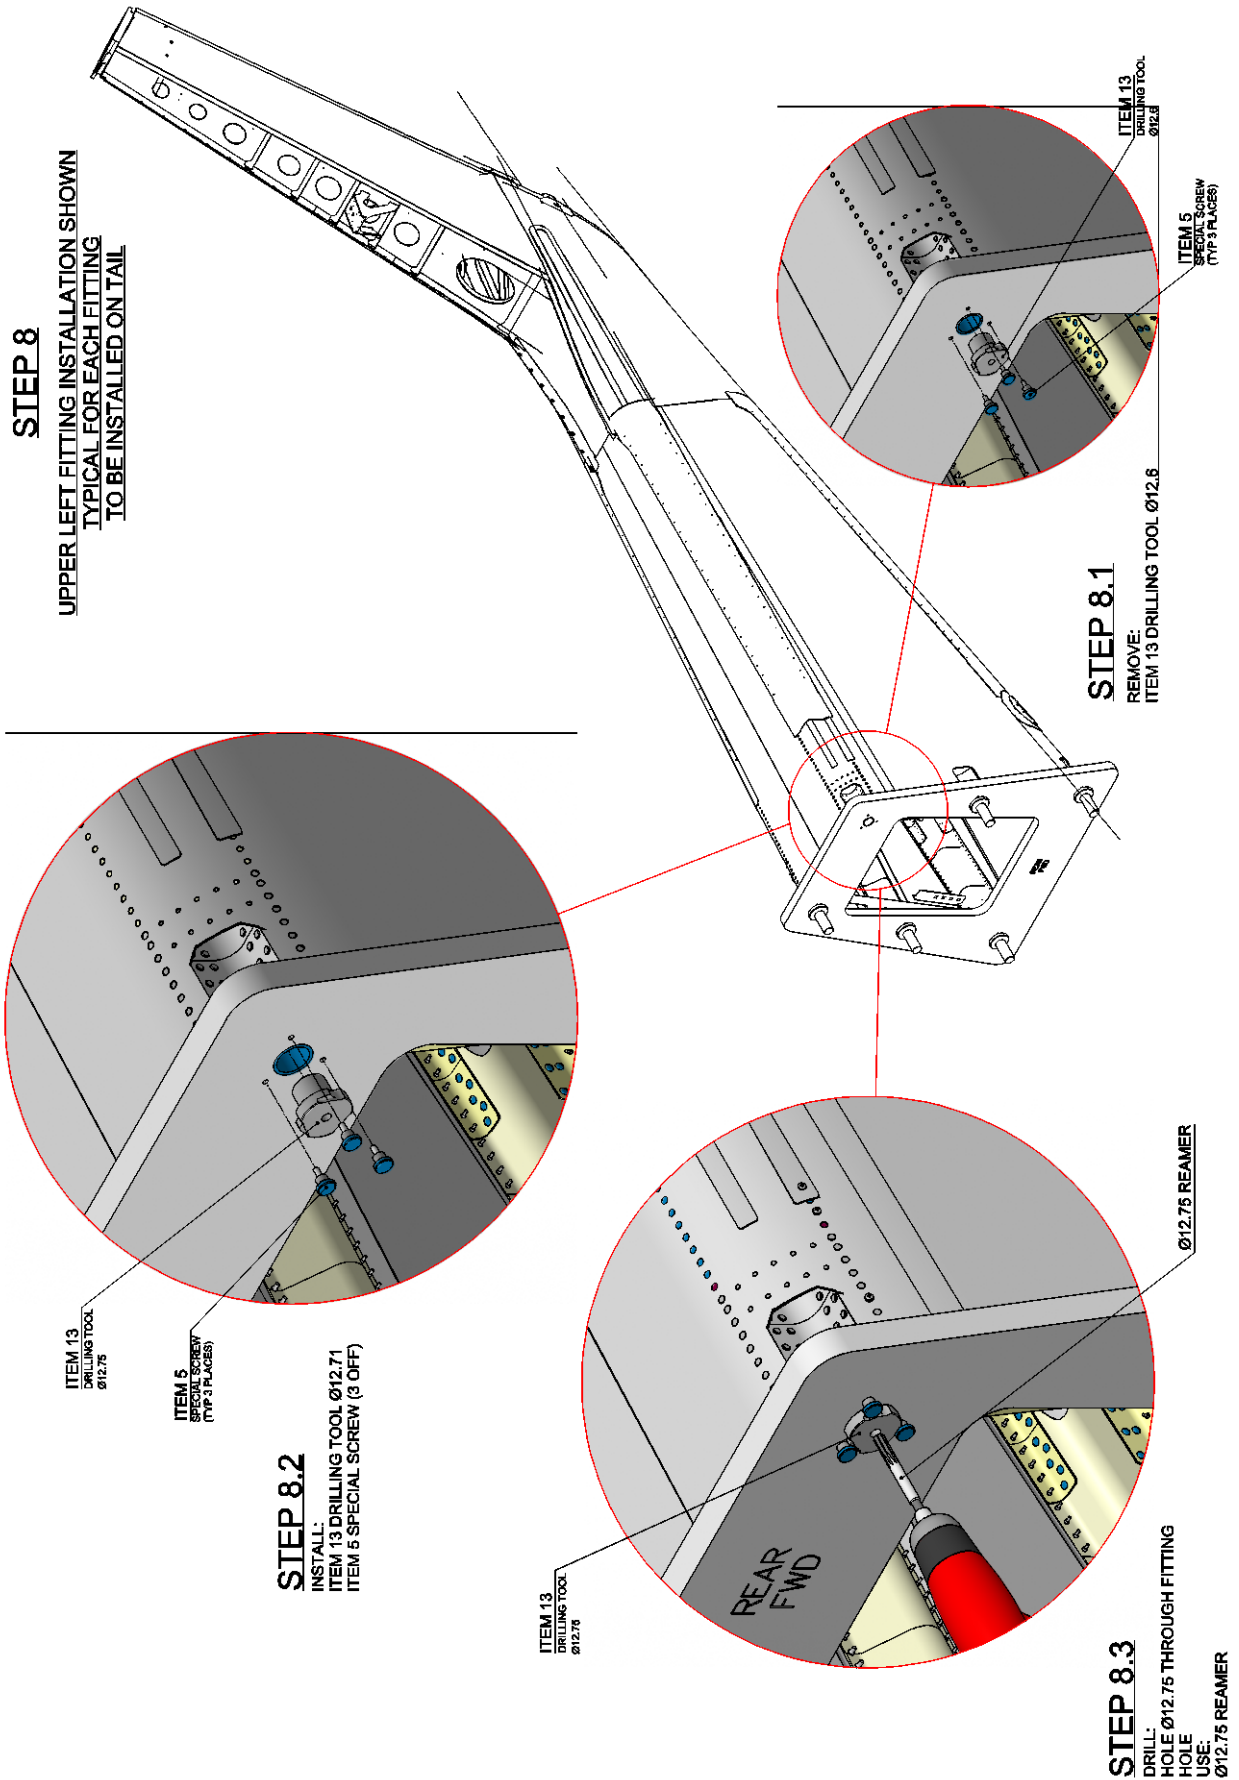

Figure A9
13. With reference to Figure A9, remove the drilling tool  $\varnothing 12.6$  (ITEM 13) and the n°3 special screws (ITEM 5).
14. With reference to Figure A9, install the drilling tool  $\varnothing 12.75$  (ITEM 13) by means of n°3 special screws (ITEM 5) and ream the fitting hole to  $\varnothing 12.75$  by means of reamer  $\varnothing 12.75$ .
15. With reference to Figure A9, remove the drilling tool  $\varnothing 12.75$  (ITEM 13) and the n°3 special screws (ITEM 5).